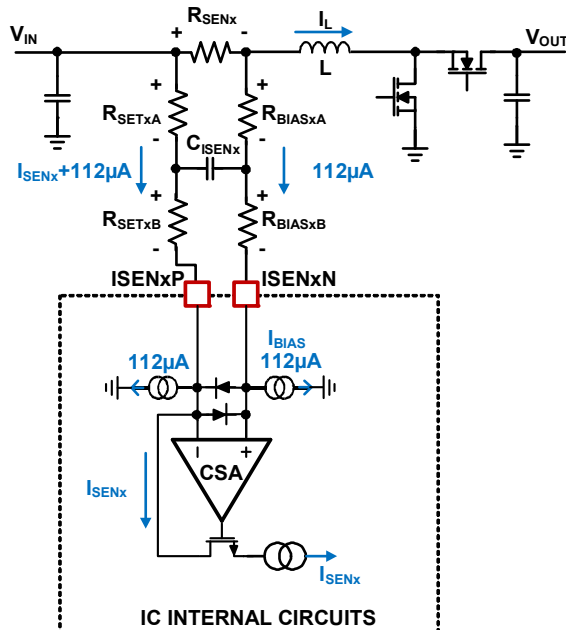

FIGURE 60. CURRENT-SENSING BLOCK DIAGRAM
The ISL78227 peak current control architecture senses the inductor current continuously for fast response. A sense resistor is placed in series with the power inductor for each phase. The ISL78227 Current Sense Amplifiers (CSA) continuously sense the respective inductor current as shown in Figure 60 on page 31 by sensing the voltage signal across the sense resistor, R_{SENx} (where “x” indicates the specific phase number and same note applied throughout this document). The sensed current for each active phase is used for peak current mode control loop, phase current balance, individual phase cycle-by-cycle peak current limiting (OC1), individual phase overcurrent fault protection (OC2_PEAK), input average Constant Current (CC) control and average overcurrent protection (OC_AVG), diode emulation, and phase drop control. The internal circuitry shown in Figure 60 represents a single phase. This circuitry is repeated for each phase.
The RC network between the R_{SENx} and $ISENxP/N$ pins as shown in Figure 60 is the recommended configuration. The $ISENxP$ pin should be connected to the positive potential of the R_{SEN_CHx} through resistor R_{SETx} , where in Figure 60, R_{SETx} is composed by R_{SETxA} plus R_{SETxB} . R_{SET} is used to set the current sense gain externally.
Because there is an $112\mu A$ bias current sinking to each of the $ISENxP$ and $ISENxN$ pins, R_{BIASx} with the same value to R_{SETx} should be placed between the $ISENxN$ pin to the low potential of the R_{SENx} , where in Figure 60, R_{BIASx} is composed by R_{BIASxA} plus R_{BIASxB} .
It is recommended to have $R_{SETxA} = R_{BIASxA}$ and $R_{SETxB} = R_{BIASxB}$, and insert a capacitor (C_{ISENx}) between them as shown in Figure 60. This will form a symmetric noise filter for the small current sense signals. The differential filtering time constant equals to $(R_{SETxA} + R_{BIASxA}) \cdot C_{ISENx}$. This time constant is typically selected in range of tens of ns depending on the actual noise levels.